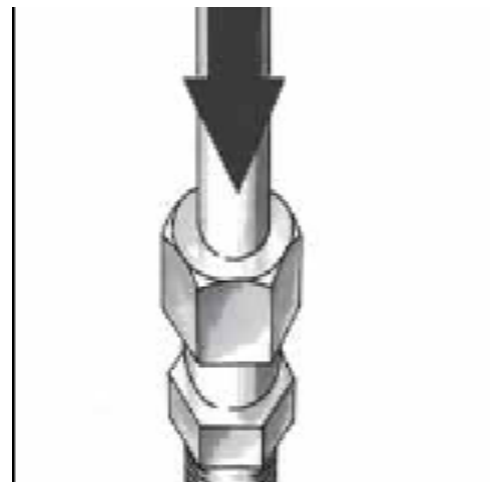

Figure 2
- 3.2 Now insert the pipe into the compression ring fitting and push it in gently as far as the stop (Figure 2).